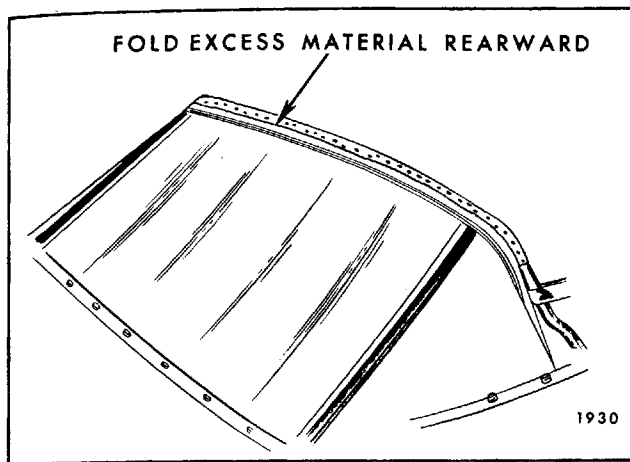

Fig. 6-56—Back Curtain Installed
12. Working from body center progressively outboard to right and left sides, tack back curtain upper valance to rear bow. Make sure all fullness has been drawn from curtain material. Fold any excess back curtain upper valance material rearward and tack to rear bow (Fig. 6-56).